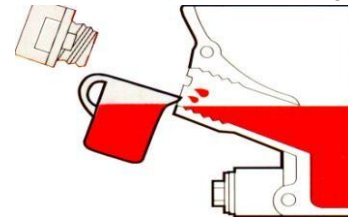

Figure 12
The oil level should reach the lower level in the oil filling outlet, that is the oil should be filled until it flows over the oil filling outlet (see: Figure 12).
2. Select the desired direction of travel by means of the switch (see: Figure 12, Item 1).